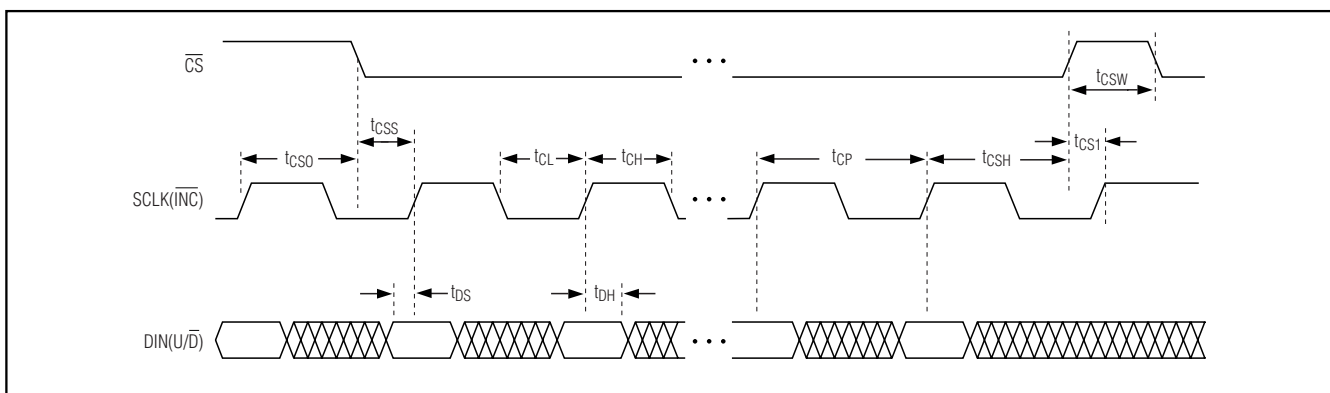

Figure 3. SPI-Compatible Serial-Interface Timing Diagram (SPI/UD = 1)
Drive SPI/UD high to enable the 3-wire SPI-compatible serial interface (see Figure 3). This write-only interface contains three inputs: chip select (CS), data in (DIN(U/D)), and data clock (SCLK(INC)). Drive CS low to load the data at DIN(U/D) synchronously into the shift register on each SCLK(INC) rising edge.